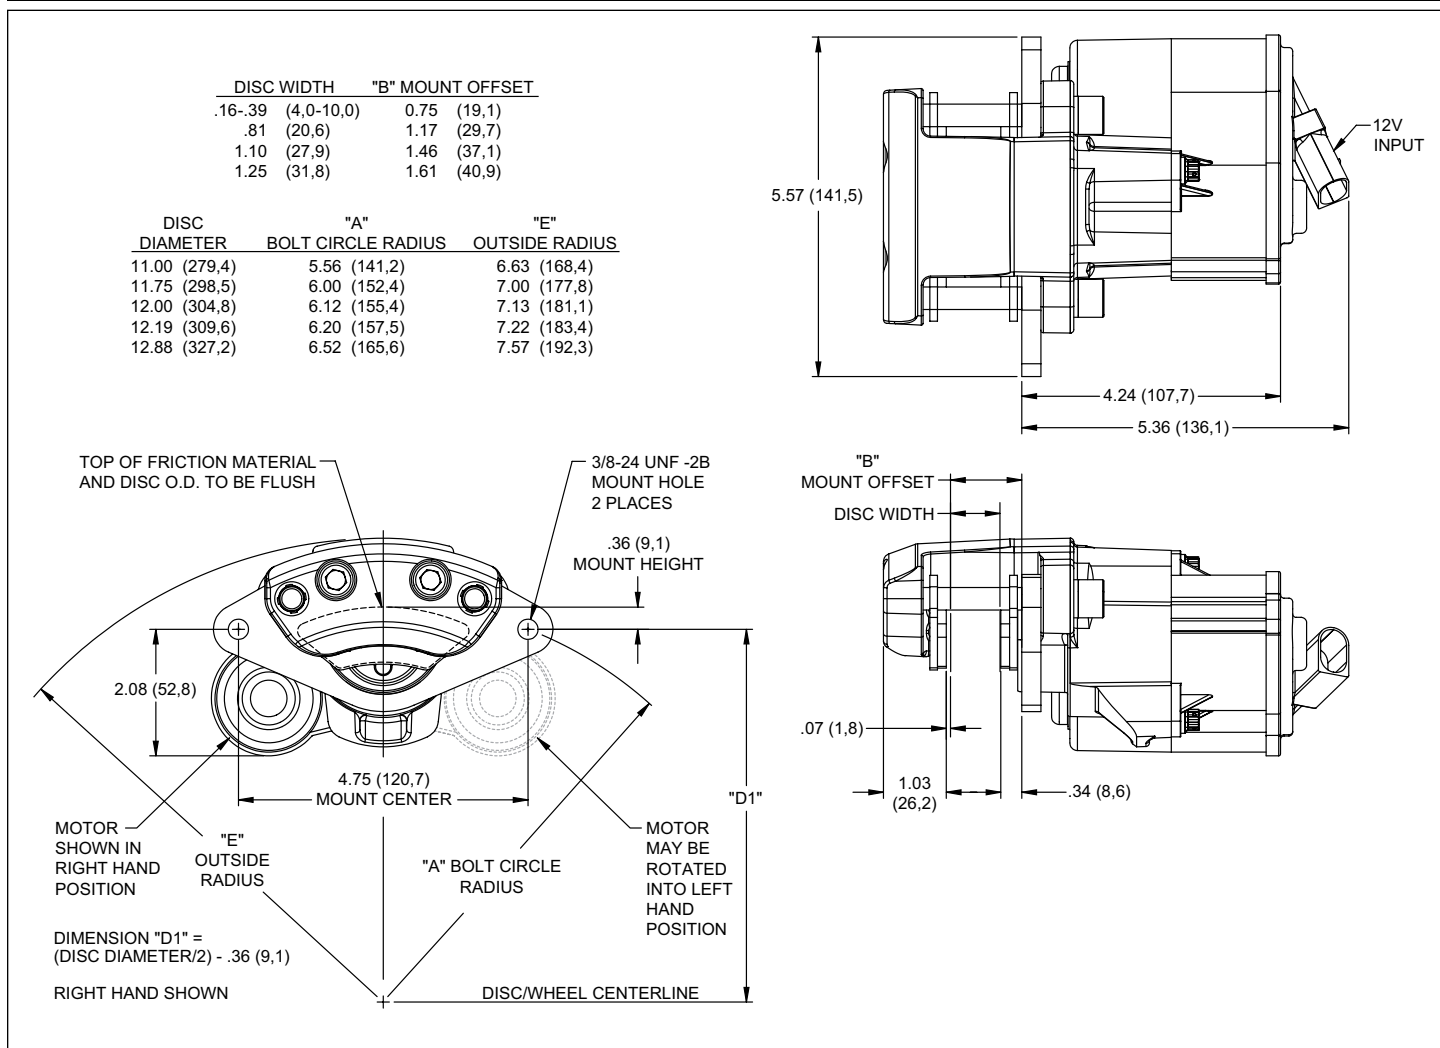

Figure 3. EPB Caliper
- EPB CALIPER - EPB calipers are not vehicle specific but are available left or right handed. The caliper motor may be rotated from right to left hand position (or vice versa) by removing the two mounting screws, repositioning the motor, and reinstalling screws in the new position, Figure 3. Torque screws to 100 in-lb. Careful mounting location must be considered to ensure adequate clearance from moving suspension parts and also from the body of the vehicle during full compression of the suspension. See Figure 3 for EPB caliper dimensions.